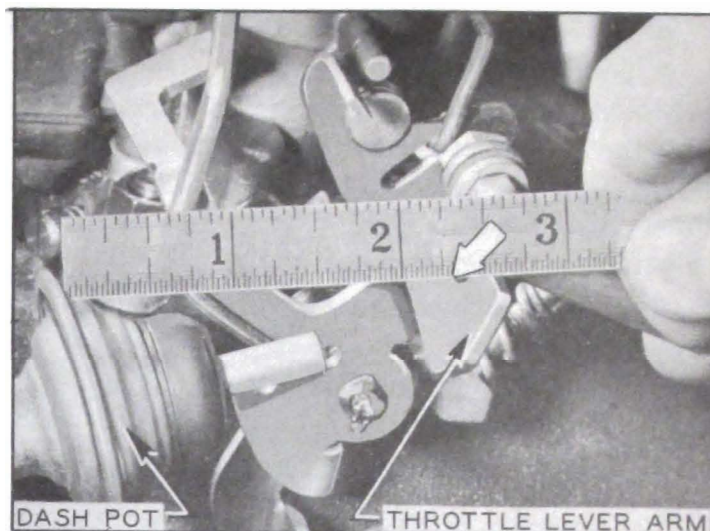

Figure 10-24—Checking Switch Timing on Car—Step Two
tle while holding scale in position against flange of dash pot. When cranking motor is energized, note distance from flange of dash pot to near edge of dash pot arm. See figure 10-24.
1. Disconnect small pink wire from terminal (No. 3) of relay. See figure 10-24. If engine now stops cranking, relay is OK, but starter relay control circuit is not functioning properly. See paragraph 10-9.